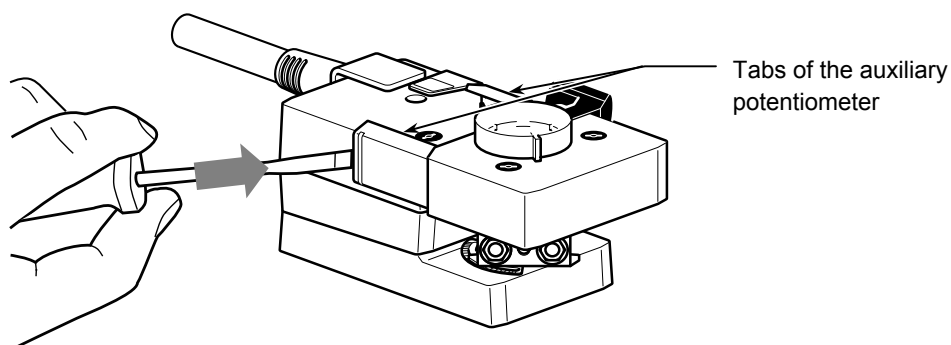

Figure 3. Detaching the tabs
- 1) Using a tool such as a slotted screw driver, pry and detach the tabs of the auxiliary potentiometer, as shown in the Fig. 3.